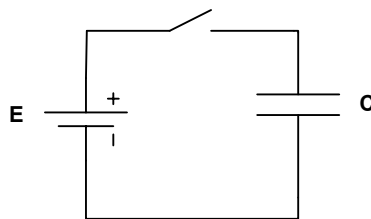

Figure 2.1
2.1.1 DC Current: Recall that current is the flow or movement of electrons and that electrons must flow in a closed loop (Section 1.1 and 1.2). But there is no direct electrical connection between the two parallel plates of a capacitor. The schematic of a simple capacitive circuit shown in Figure 2.1 raises the question, “How do electrons flow around the loop when there is no electrical connection between the plates of the capacitor?” The short answer is that they don’t. But, of course, the total answer isn’t that simple.
Referring to Figure 2.1, assume there is no charge on the capacitor and then the switch closes, completing the circuit. At the first instant of time, electrons flow onto one plate of the capacitor. Those electrons repel (*like charged*) electrons from the other plate of the capacitor. *Those* electrons continue to flow around the loop, completing the electron flow. Recall that electron flow is really a *shift* of electrons around the circuit (refer back to Section 1.2). At the first instant of time, electron shift occurs as if there were a direct connection across the plates. The requirement of *one electron in, one electron out* is met. *This is accomplished simply by Coulomb’s well-known physics fact that like charges repel each other.*
So, in the simple circuit shown in Figure 2.1, current, or electron flow (shift), can occur until the voltage on the capacitor builds up to the same level as the driving voltage, at which point all current flow must stop. If we were then to open the switch, and if the capacitor were ideal, that voltage would remain on the plates indefinitely. (All practical capacitors have varying degrees of leakage of charge off their plates, depending on their structure and technology, so no practical capacitor can truly hold its charge "indefinitely.")